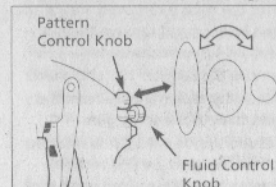

Figure 7 - Pattern Size
2. Set pattern size to desired shape. For full pattern, open pattern control knob by turning counterclockwise. For a round pattern, turn pattern control knob clockwise (See Figure 7).